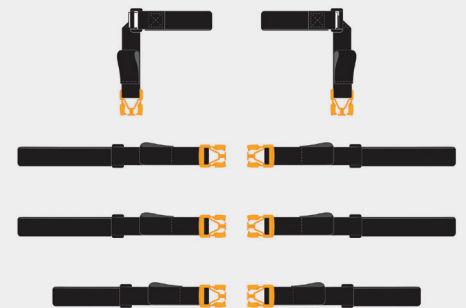

Fig. 2
- (8) Binder Transfer anchors (Fig. 2)